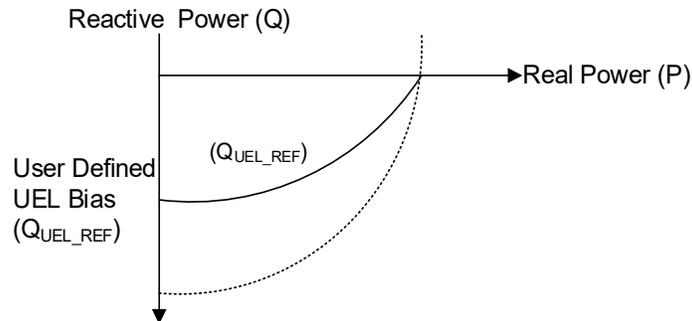

Figure 11-13. Underexcitation Limiter Reference
1. The internal UEL operating characteristic is designed to mimic the characteristics of the limiter on the P-Q plane as illustrated in Figure 11-13. The UEL reference (Q_{UEL_REF}) is generated based on the user input parameter “UEL Bias (Q_{BIAS})” and the active power (P) as follows: